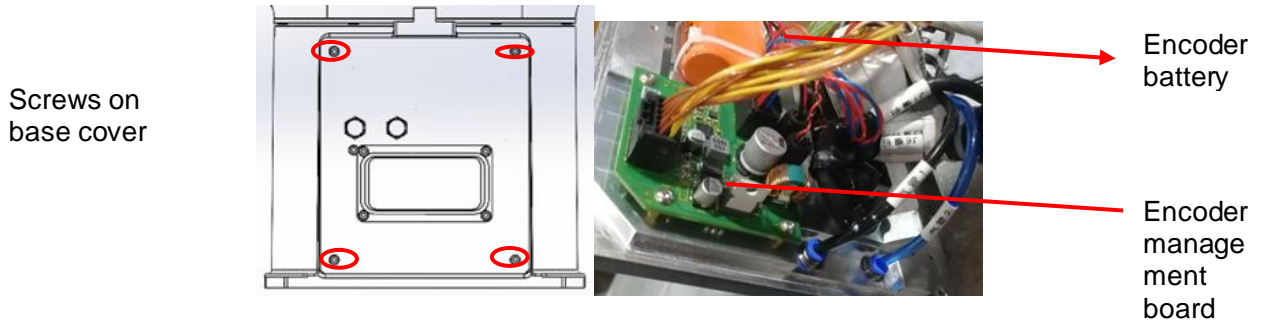

Fig. 6.1 Fixing of Internal Battery
- 1) Remove the fixing screws on the base cover as shown in Fig. 6.1 and pull out the base cover;
- 6) Restore the base cover and tighten the screws on the base cover as shown in Fig. 6.1;